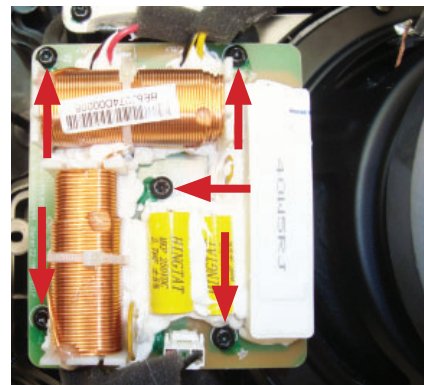

Figure 20
5.2 Remove the five T20 Torx screws that secure the crossover assembly to the baffle as shown in figure 20.